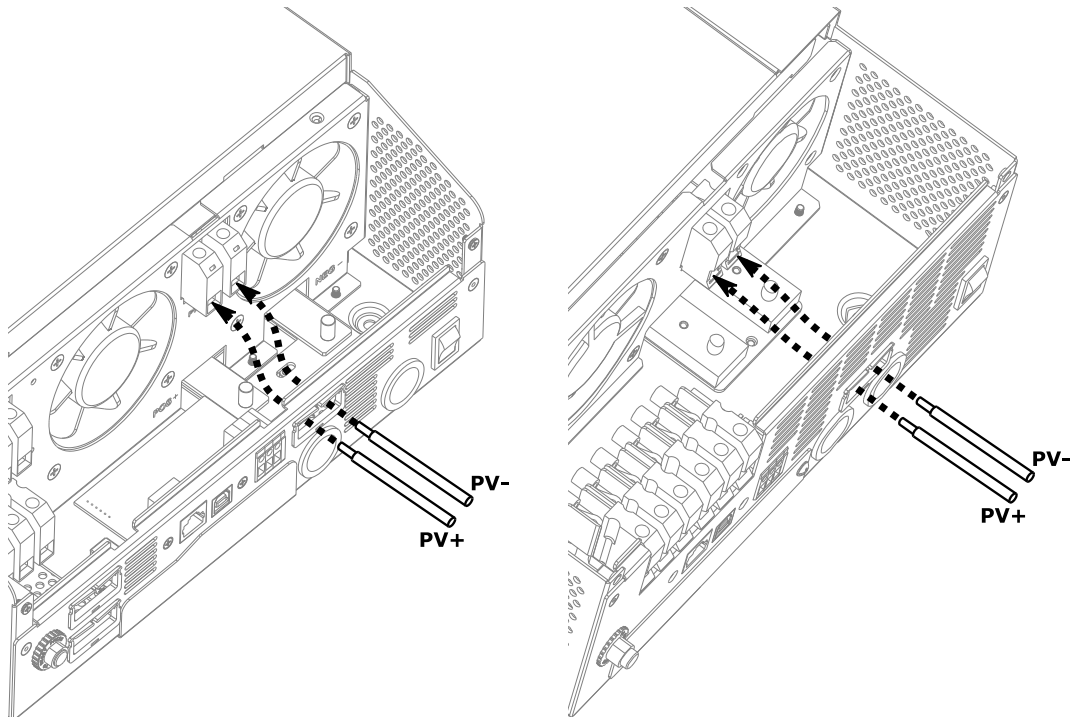

Figure 9: PV array cable connection
4. Connect the positive and negative cables from the PV array to the respective PV terminals on the inverter (*Figure 9*). Tighten the terminal clamps with a torque of 1.2 Nm